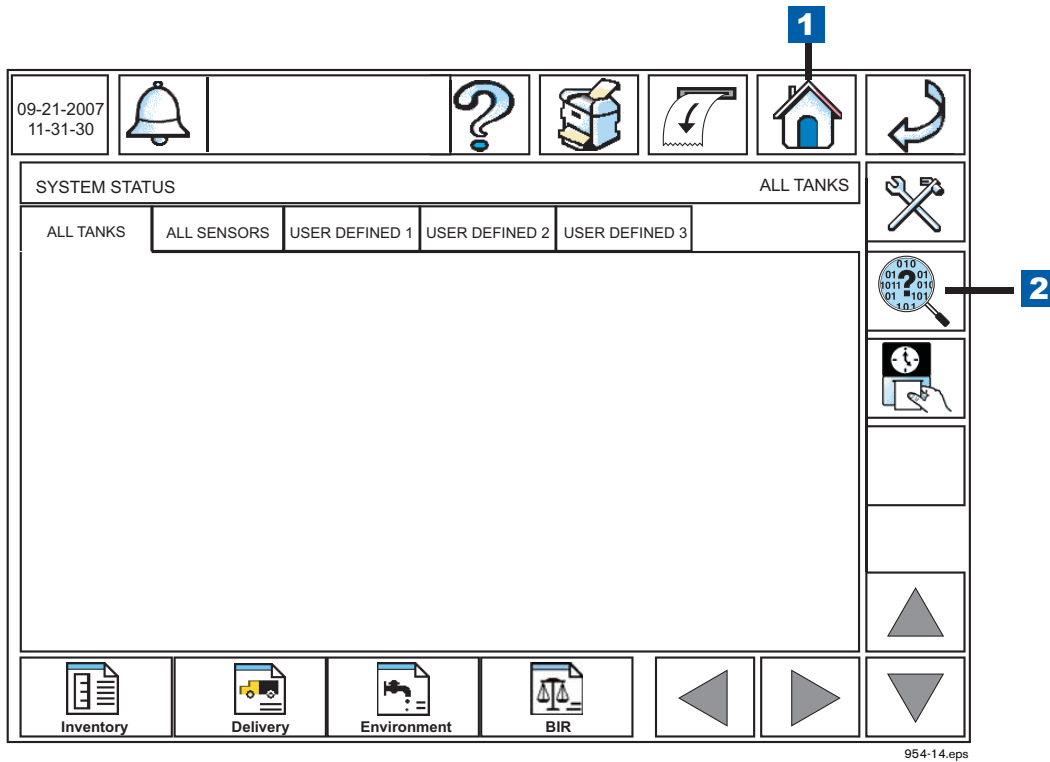

Figure 2. Accessing Diagnostic Main Screen from the Home Screen
2. Touch the Diagnostics button on the Home Screen (see item 2 in Figure 2).
LEGEND FOR NUMBERED BOX IN Figure 2